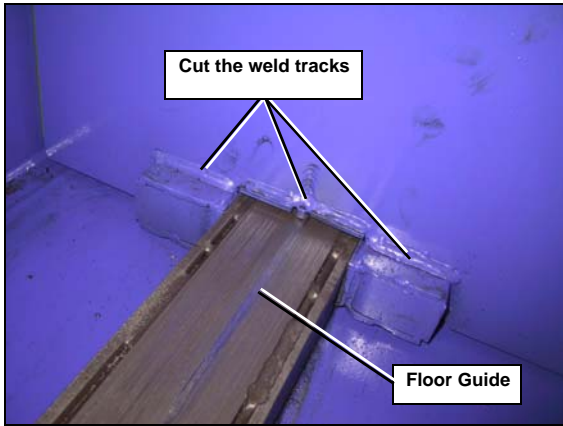

Figure 47. Sliding shoes (front of the packer)
8. Cut the weld tracks (Figure 47. “Sliding shoes (front of the packer)”) of the sliding shoes located in front of the packer.